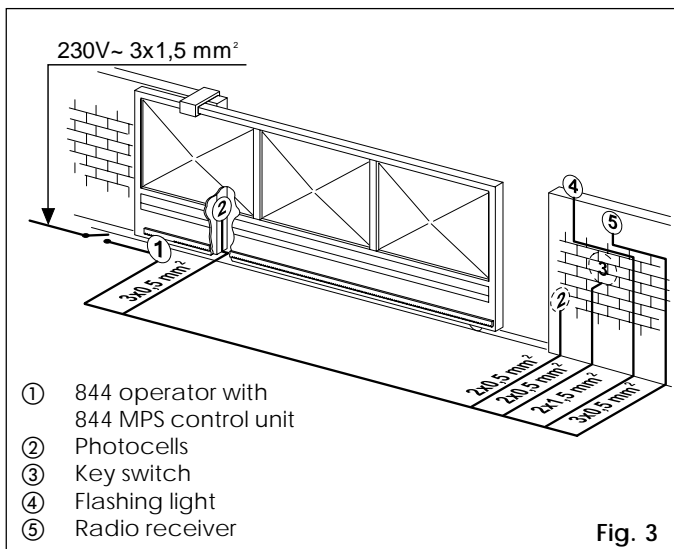

Fig. 3
Gear motor dimensions LxHxD (mm)	see Fig. 3
- 4) Lay the electrical cables for connection to the accessories and the electricity supply as shown in Fig. 3. For ease of connection, ensure that the cables protrude by about 45 cm from the hole in the base plate (Figs. 5-6 ref. ❶).
As shown in Fig. 3, lay the conduits and make the electrical connections from the 844 MPS electronic control unit to the chosen accessories.